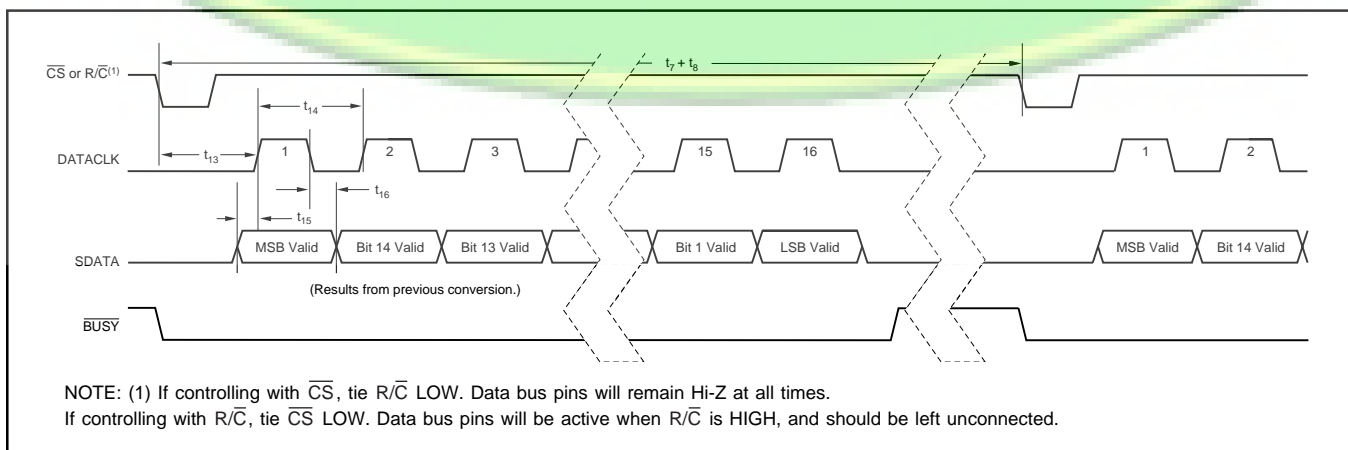

FIGURE 4. Serial Data Timing Using Internal Data Clock (TAG tied LOW).
NOTE: (1) See Figures 4, 5, and 6 for constraints on data valid from conversion "n-1".
To use the internal data clock, tie $\text{EXT}/\overline{\text{INT}}$ (pin 8) LOW. The combination of R/\overline{C} (pin 22) and $\overline{\text{CS}}$ (pin 23) LOW will initiate conversion 'n' and activate the internal data clock (typically 900kHz clock rate). The ADS7807 will output 16 bits of valid data, MSB first, from conversion 'n-1' on SDATA (pin 19), synchronized to 16 clock pulses output on DATACLK (pin 18). The data will be valid on both the rising and falling edges of the internal data clock. The rising edge of $\overline{\text{BUSY}}$ (pin 24) can be used to latch the data. After the 16th clock pulse, DATACLK will remain LOW until the next conversion is initiated, while SDATA will go to whatever logic level was input on TAG (pin 20) during the first clock pulse. Refer to Table VI and Figure 4.